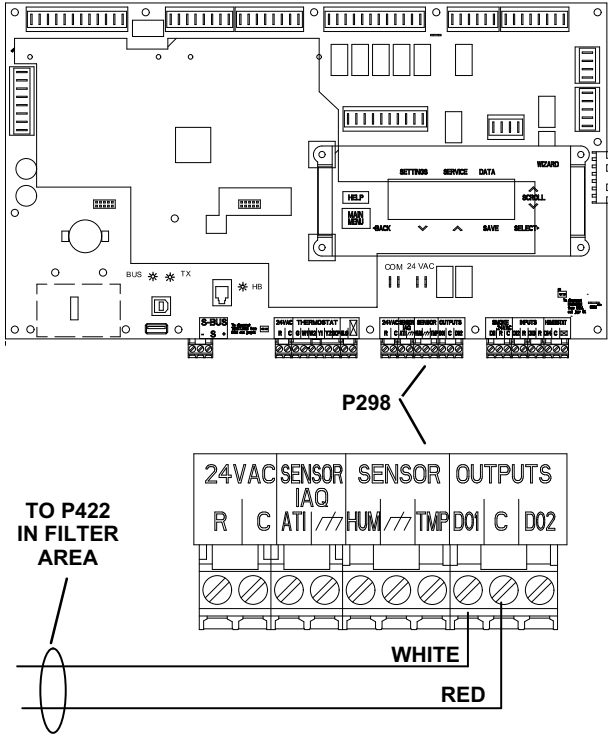

FIGURE 12
- 3- Strip and connect the cut wires to P298 terminals D01 and C on the M3 Unit Controller. See figure 12.